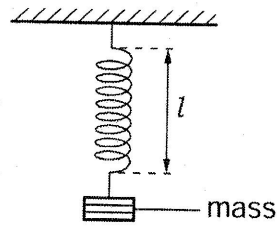

Fig. 3.3
- (c) The arrangement shown in Fig. 3.3 is used to determine the length  $l$  of a spring when different masses  $M$  are attached to the spring.